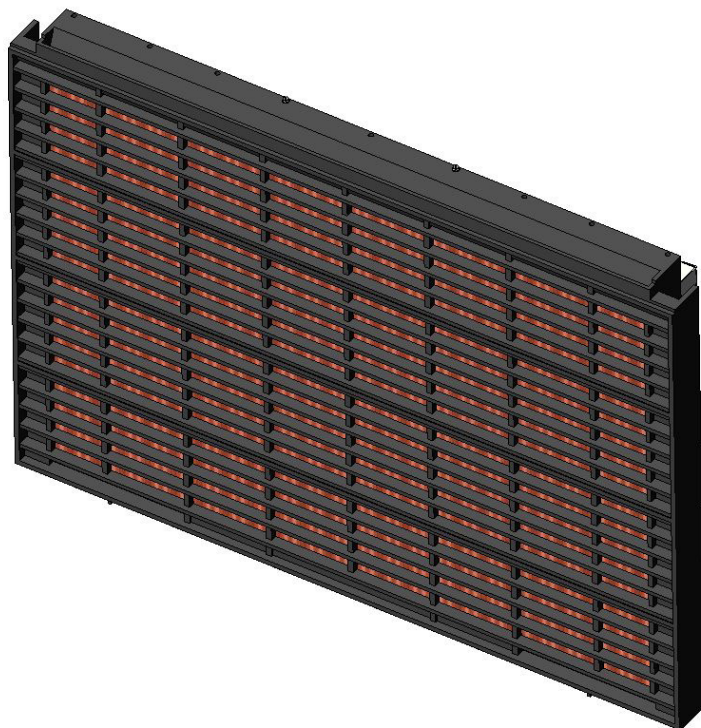

Figure 11: Cooling Pads
2. Lift pad vertically using a flat head screwdriver on the pad frame assembly shown in Figure 11: Cooling Pads.